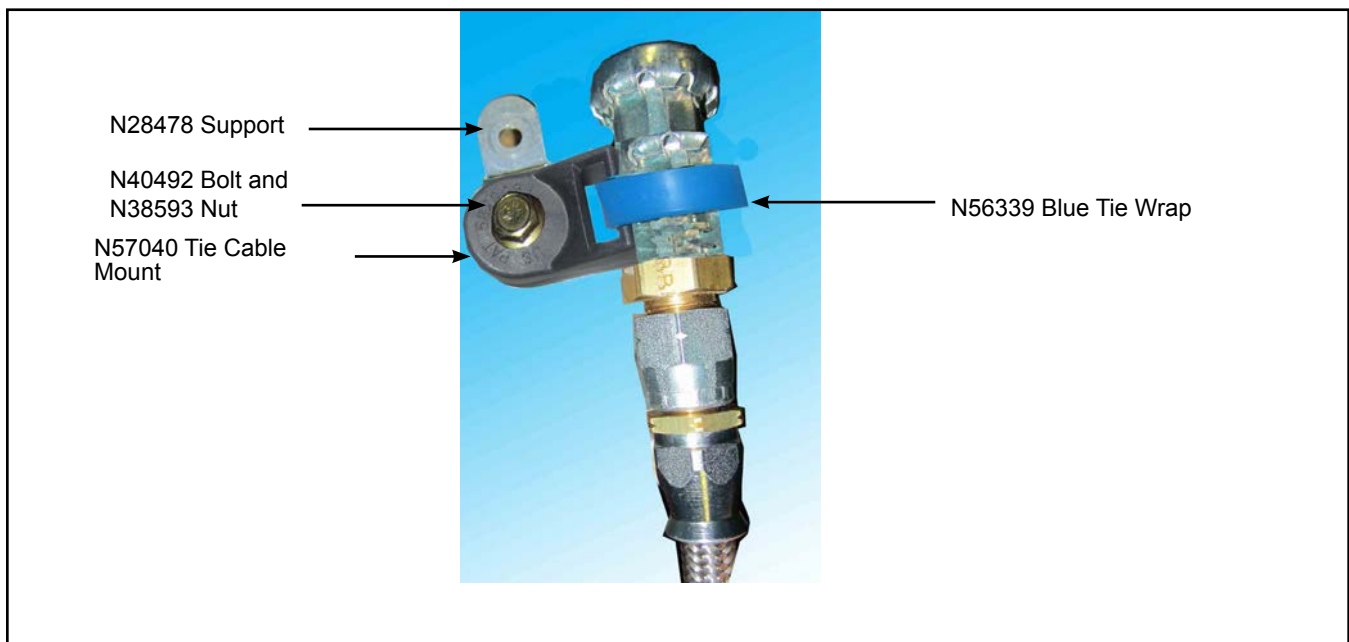

Figure 10 - Tie Cable Mount and blue tie wrap Installed on Breather.
- 1.16. Install one N57040 Tie cable mount and N56339 blue tie wrap around the breather. See Figure 10.
- 1.17. Install the N28478 support to the Tie cable mount with one N40492 bolt and N38593 nut. See Figure 10.